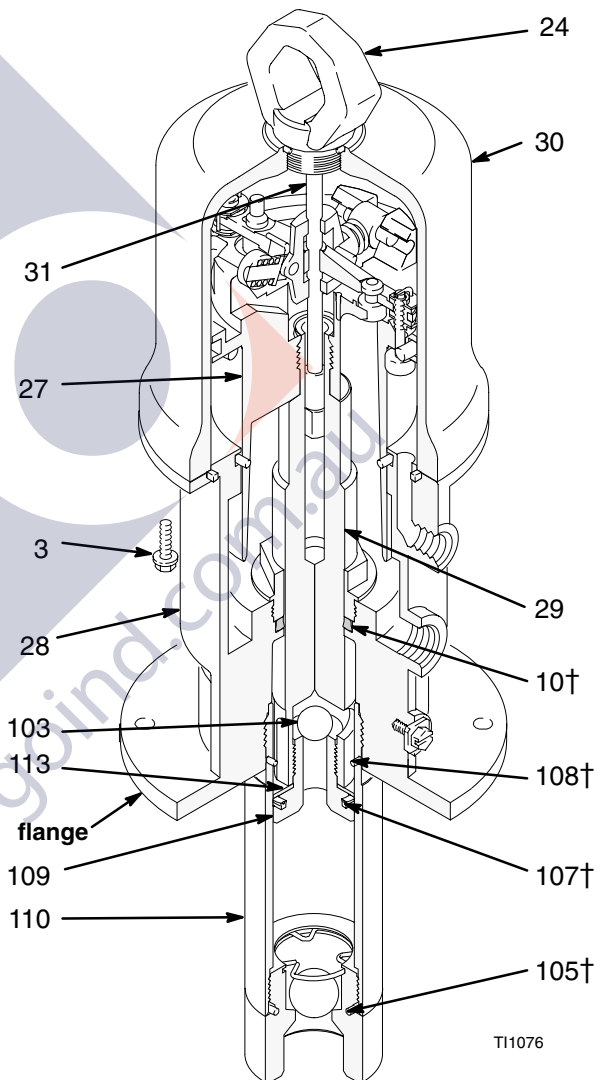

Fig. 3
3. Disconnect the hoses, remove the pump from its mounting, and clamp the air motor base (28) in a vise horizontally by closing the vice jaws on the flange.
4. Use a strap wrench on the displacement pump cylinder (110) to screw it out of the air motor base (28). See Fig. 3.
5. Remove the piston/valve seat (109) from the rod (29) with wrenches or with the vice and a wrench.
6. Remove the piston ball (103), u-cup packing (107†), and piston washer (113).
7. Remove the air motor base from the vise, and place the piston rod (29) flats in the vice with the air motor up.
8. Loosen the lift ring (24). Pull up the lift ring, grip the trip rod (31) with the padded pliers, and screw the lift ring off of the rod.
12. Grease and reinstall the u-cup seal (10†), thread the throat bearing (36) into the air motor base (28), and torque the throat bearing to 30 to 40 ft-lb (41 to 54 N.m) using a 2-in. socket.
13. Slide the piston rod (29) down through the packing, and lower the piston assembly (27) into the air motor base (28).
14. Carefully lower the cylinder (30) straight down onto the piston assembly (27). Tighten the eight screws (3) holding the cylinder to the base (28).
15. Grip the trip rod (31) with padded pliers, screw the lift ring (24) onto the trip rod, push the lift ring down, and screw it into the top of the cylinder.
16. Install the u-cup packing (107†) with the lips up, and place the piston washer (113) on the piston/valve seat (109). Make sure the lips of the u-cup packing face up. See Fig. 3.
17. Place the piston ball (103) in the piston rod (29).
18. Clean the threads of the piston/valve seat, Apply Loctite® to the threads, (109), and thread the assembly from Step 16 onto the piston rod (29).
19. Clamp the flats of the piston/valve seat (109) in a vice, and torque the piston rod (29) to the piston valve seat to 40 to 60 ft-lb (54 to 81 N.m).
20. Clamp the air motor base (28) in a vise horizontally by closing the vise jaws on the flange
21. Use a strap wrench to screw the displacement pump cylinder (110) to the air motor base (28), and torque to 95 to 105 ft-lb (129 to 142 N.m).